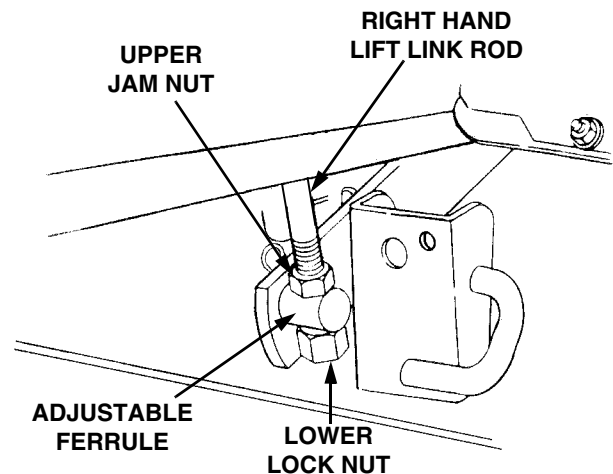

Figure 47
6. Side-to-side leveling is obtained utilizing the adjustment ferrule and right hand lift link rod (Refer to Figure 47).
7. Loosen the upper jam nut on the lift link rod and turn away from the adjustment ferrule. Turn the lower lock nut upward (tighten) on the threads of the rod to raise the right side of the mower deck. Turn the lock nut down (loosen) on the threads to lower right side of the mower deck (See Figure 47).